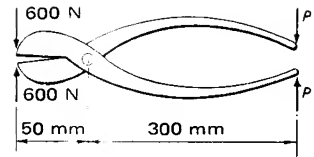

Fig. 2.45
2. Find the force P required at the ends of the handles of the shears shown in Fig. 2.45.